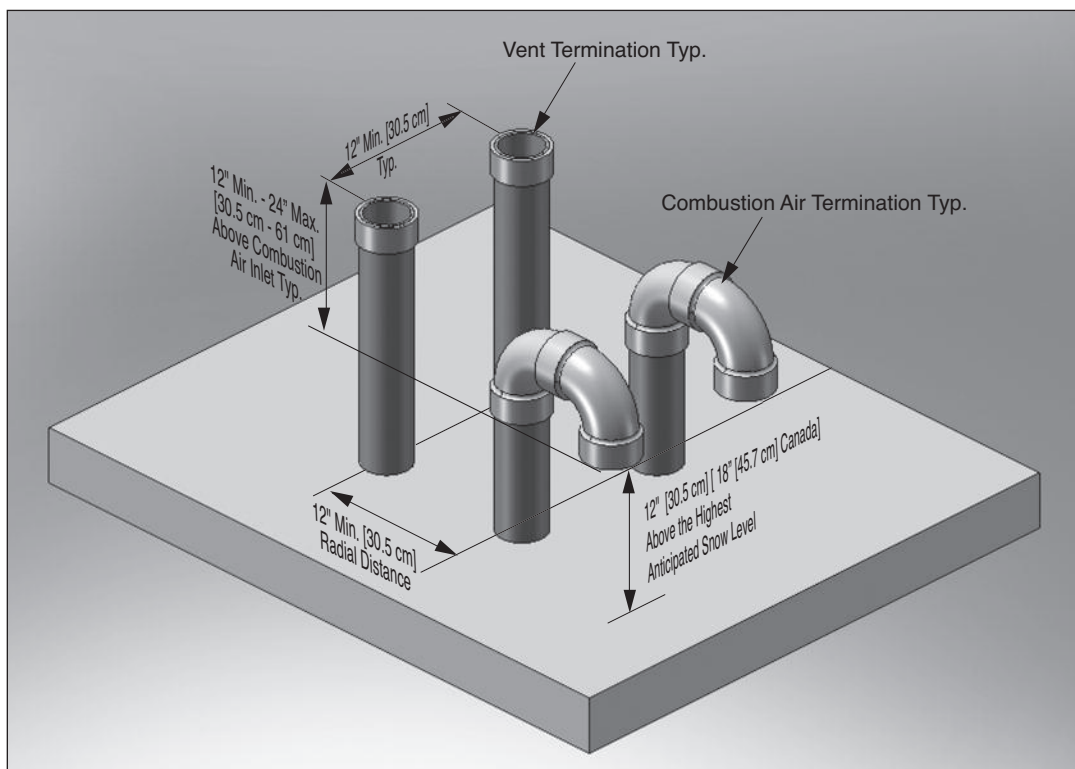

Fig. 7: Direct Vent - Vertical Termination of Multiple Appliances
2. The roof penetration of the vent and combustion air piping should be such that the combustion air inlet is a minimum 12" [30.5 cm] from the adjacent vent pipe of the other appliance for installations in the U.S. as shown in Fig. 7. For installations in Canada, provide clearances as required by CAN/CSA B149.1.